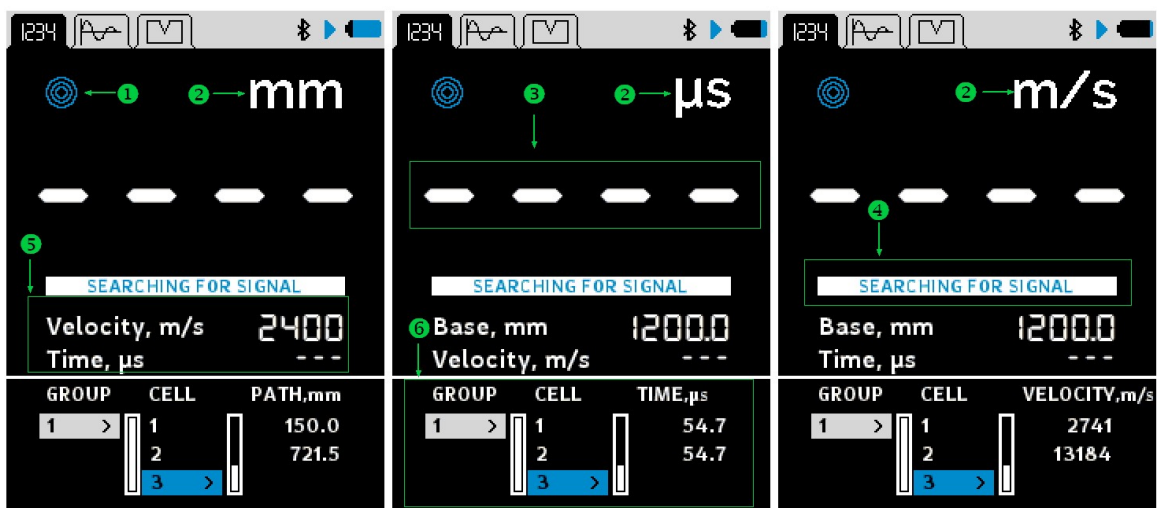

Figure 15: Digital mode screens
Navigate to the group's row (see figure 15). Select the last group and press the  key. The pop-up dialog ① asks permission to create a new group. The A1410 PULSAR creates a new group if the last group is not empty. If the last group is empty the A1410 PULSAR does not create a new group and shows the message ② .